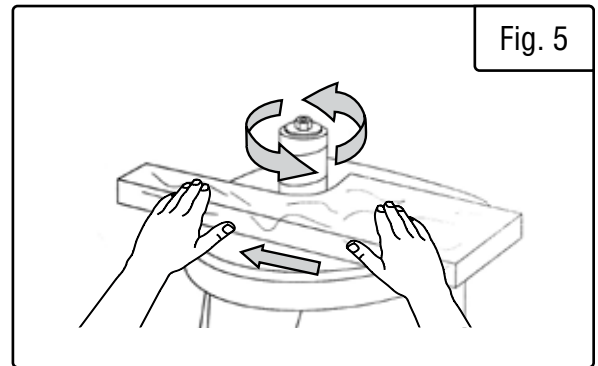

Fig. 5
3. Maintain a firm grip with both hands on the workpiece for maximum control. Slowly guide the workpiece against the rotation of the spindle (Fig. 5).